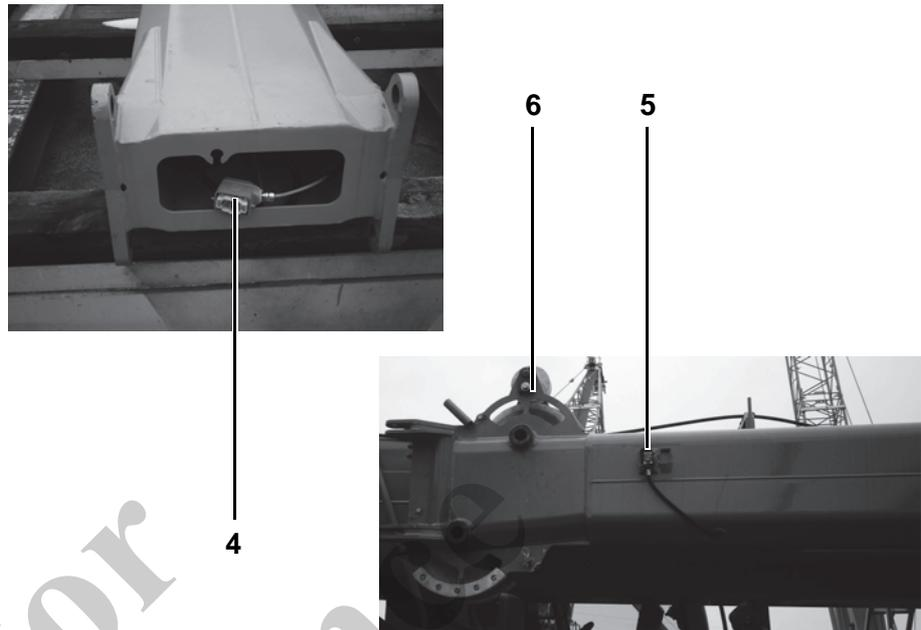
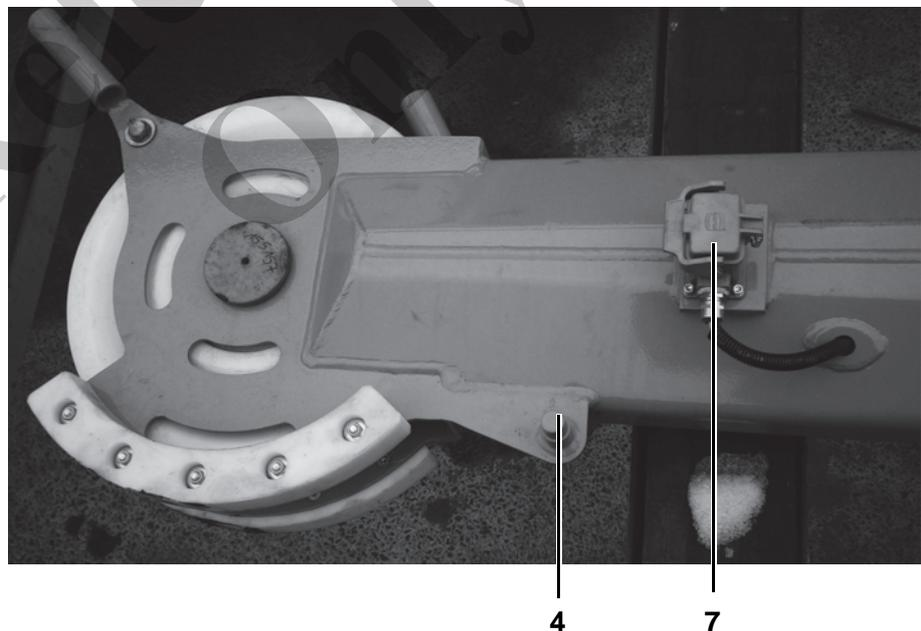

Fig. 231 Connecting the lifting limit switch to the fly boom extension
Fig. 232 Connecting the lifting limit switch to the fly boom extension
10	Guide the hoist rope of winch 1 over the deflection sheave of the main boom and to the head of the fly boom. Guide the hoist rope further between the small (6) in Fig. 231 and large sheave on the fly boom head and further over the sheave on the end of the fly boom extension, and reeve it in between the sheave on the fly boom and bottom hook block.
11	Plug the connecting cable for (fly boom) lifting limit switch (4) in Fig. 231 into the power socket of the fly boom (5) in Fig. 231.
- 12 Fasten the lifting limit switch to the fly boom extension (6) in Fig. 231 and plug it into the corresponding power socket (7) in Fig. 232.